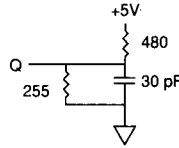

Fig. 1 OUTPUT LOAD EQUIVALENT
| Output load .....                   | See Figures 1 and 2     |
5. Test conditions as specified with the output loading as shown in Fig. 1 unless otherwise noted.